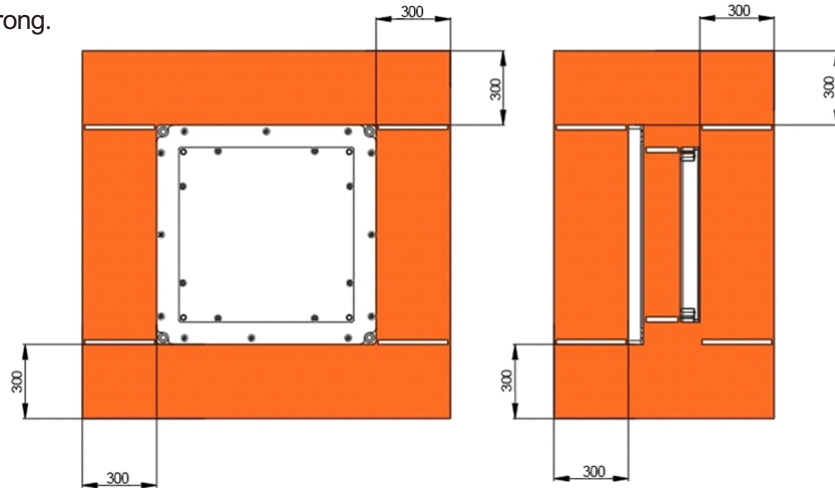

Fig 5 – Hazardous zone, side and front view (all measurements in mm)
- Persons with pacemakers or active metallic implants are strictly prohibited from entering the danger zone (see Figure 5).